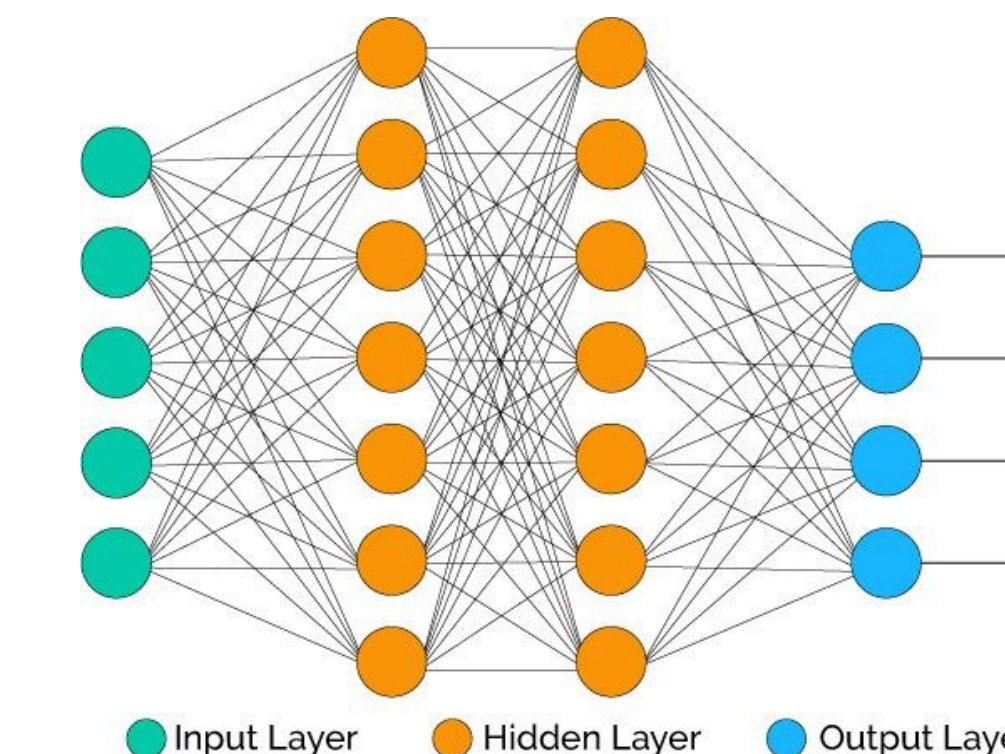

Figure 1, Image from *Conor McDonald*
- Generator:** a system of neural networks with a shape like Figure 1. Given a set of data, the generator produces a set of similar data.